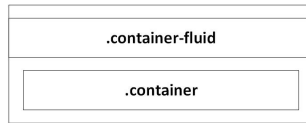

Figure 19.3. Bootstrap containers.
- `.container-fluid`: in **line 10**, we use this class to provide a full width container that span the entire width of the viewport. Instead of `.container-fluid`, you can also use `.container`. The difference is illustrated in Figure 19.3.